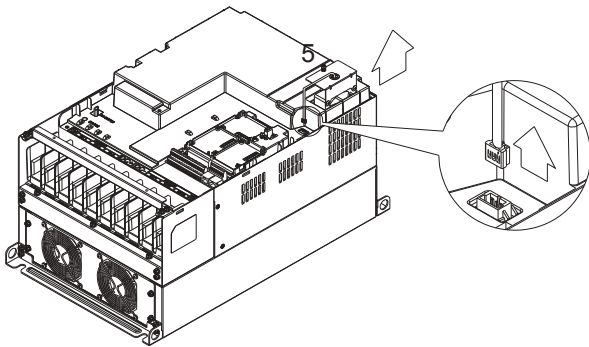

Figure 3
3. (Figure 3) Loosen screw 5 and disconnect the fan's power. Screw torque: 10~12kg-cm (8.6~10.4in-lbf).